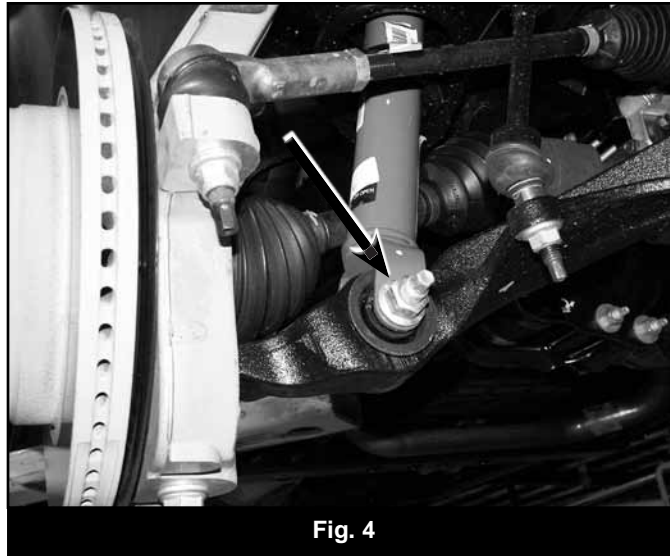

Fig. 4
24. Loosen the strut-to-lower control arm hardware (**Fig 4**). Remove the nut from the bolt and leave the bolt in place to temporarily retain the strut to the lower control arm. Retain the nut.